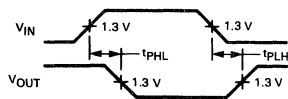

Fig. 1
**DESCRIPTION** — The SN54LS/74LS85 is a 4-Bit Magnitude Comparator which compares two 4-bit words (A, B), each word having four Parallel Inputs ( $A_0$ - $A_3$ ,  $B_0$ - $B_3$ );  $A_3$ ,  $B_3$  being the most significant inputs. Operation is not restricted to binary codes, the device will work with any monotonic code. Three Outputs are provided: "A greater than B" ( $O_A > B$ ), "A less than B" ( $O_A < B$ ), "A equal to B" ( $O_A = B$ ). Three Expander Inputs,  $I_{A > B}$ ,  $I_{A < B}$ ,  $I_{A = B}$ , allow cascading without external gates. For proper compare operation, the Expander Inputs to the least significant position must be connected as follows:  $I_{A < B} = I_{A > B} = L$ ,  $I_{A = B} = H$ . For serial (ripple) expansion, the  $O_A > B$ ,  $O_A < B$  and  $O_A = B$  Outputs are connected respectively to the  $I_{A > B}$ ,  $I_{A < B}$ , and  $I_{A = B}$  inputs of the next most significant comparator, as shown in Figure 1. Refer to Applications section of data sheet for high speed method of comparing large words.